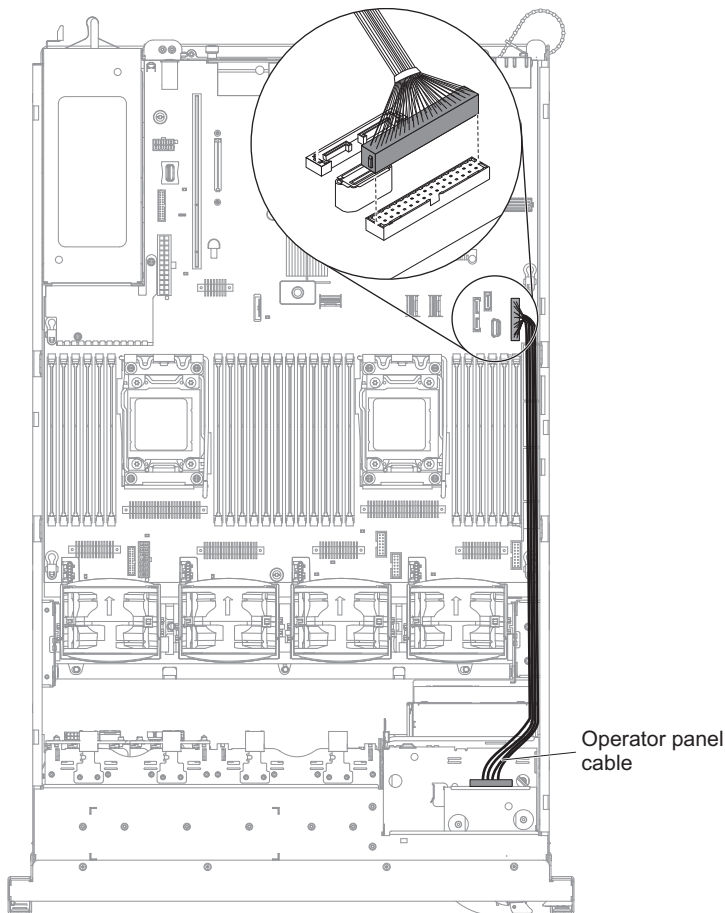

Figure 258. Connecting the 2145-DH8 operator-information panel cable
4. To connect the operator information panel cable on the system board, press evenly on the cable shown in Figure 258 on page 310. Pressing on one side of the cable might damage the cable or connector.